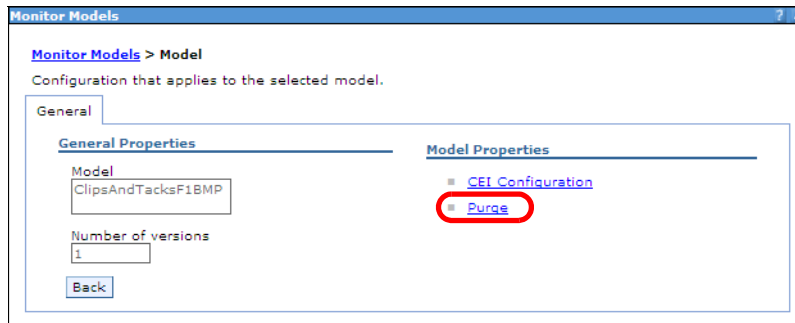

Figure 14-53 Monitor model undeployment: Purge command
- ▶ On the next page, click *Purge* (Figure 14-53)